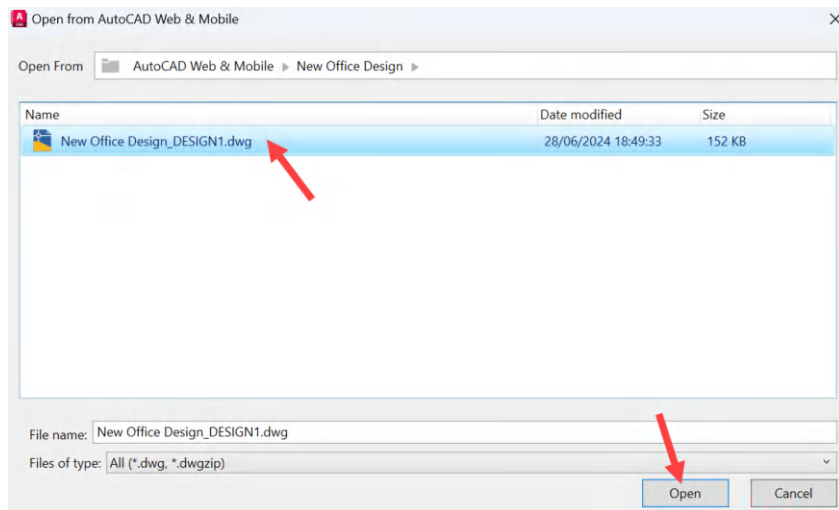

Figure 13.14: The new drawing in the New Office Design folder
6. Once in the New Office Design folder, you will see your new drawing file, as shown in *Figure 13.14*.